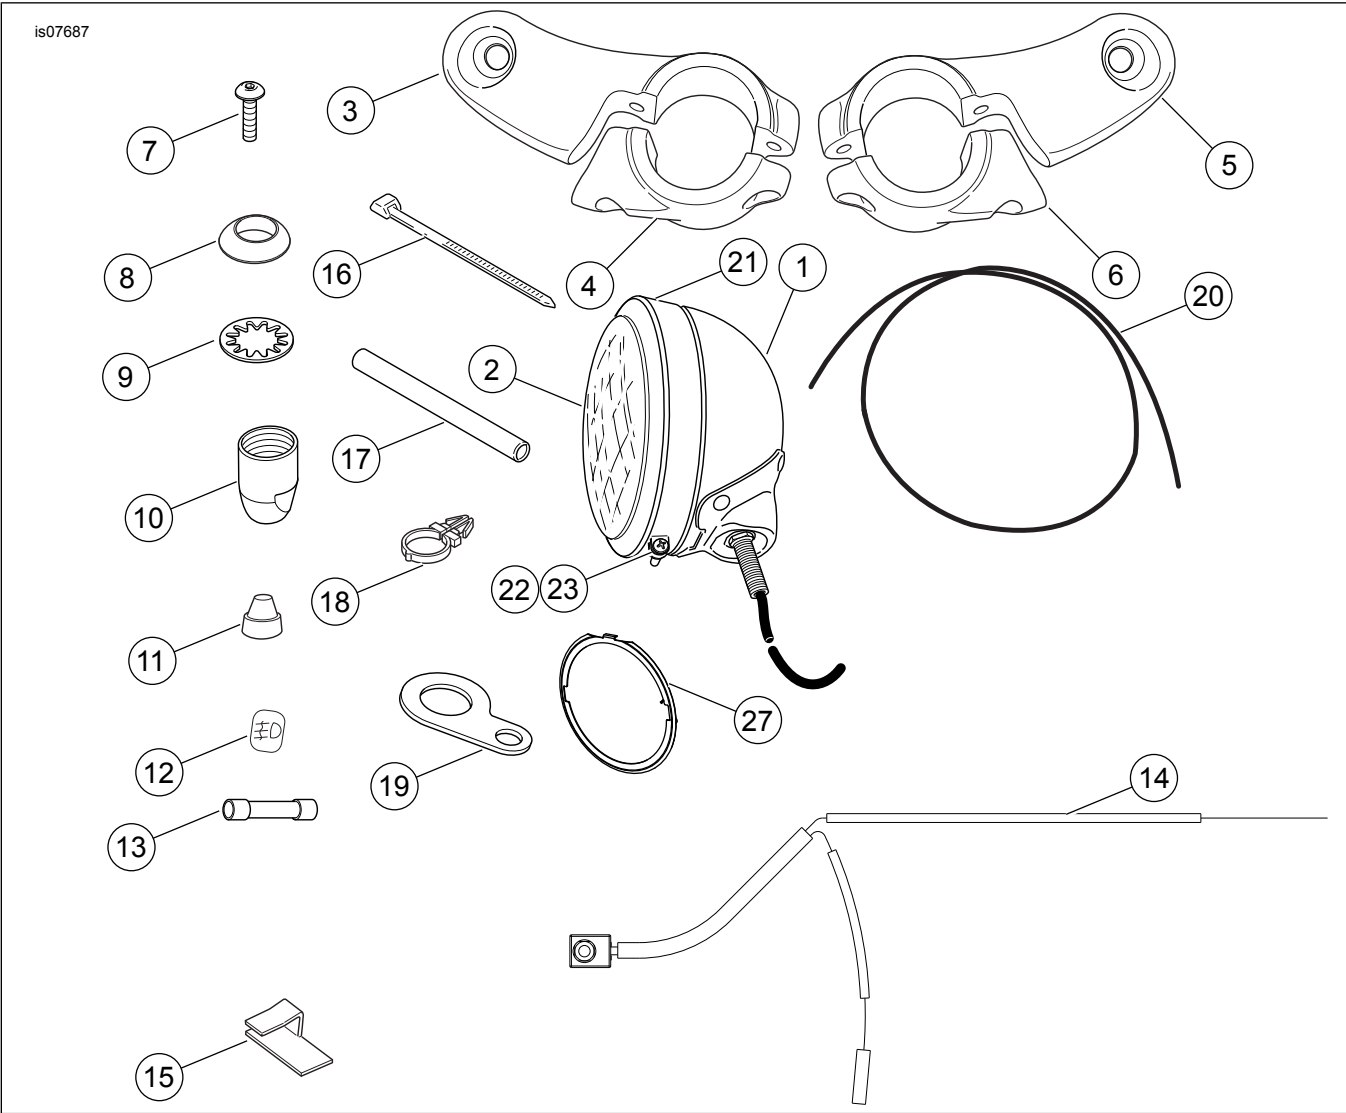

Figure 7. Service Parts: Auxiliary Light Kit
See Figure 7 and Table 1.
7. See Figure 7. Locate the outer trim ring (24), inner nesting ring (27), screw (25), and nut (26).
13. See Figure 7 and the connector appendix of the service manual. Install the white wire socket terminal of harness (14) into the empty cavity of the headlamp connector socket housing.
16. See Figure 7. Obtain the switch mounting bracket (19) from the kit. Remove the boot from the lamp switch, and install the switch into the bracket. Replace the boot on the switch.
If the boot becomes worn or damaged, or is lost, replace the boot to prevent moisture from entering the switch. See Figure 7 (item 11).
18. See Figure 7. Secure the lamp switch leg of the harness to the handlebar using the wire harness retainers (Item 18) as needed. Snap the retainers into the holes in the handlebar.
19. Route the black unterminated wire (1) from the switch past the steering head toward the auxiliary lamps.
26. See Figure 7. Secure the wires to the lower fork steering bracket using the adhesive-backed clips (15) from the kit.